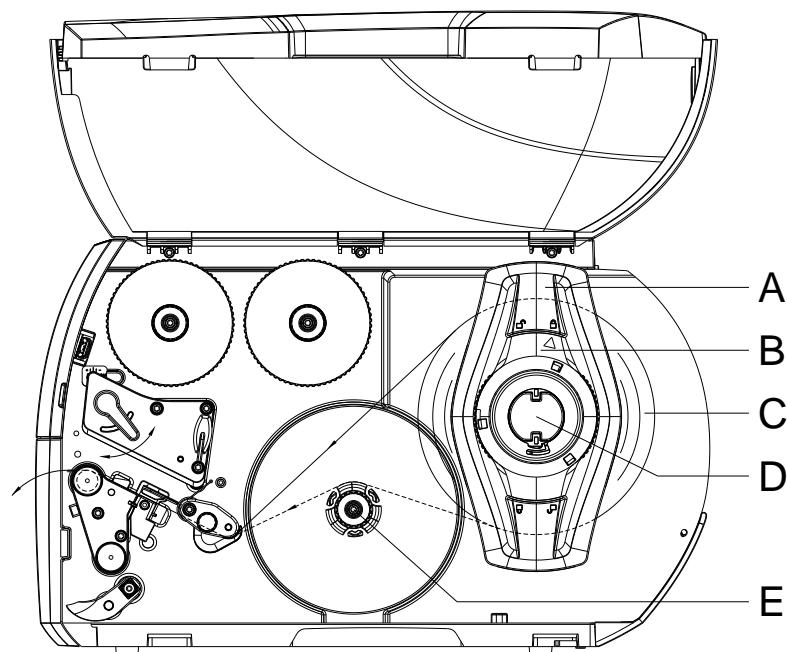

Figure 11
1. Turn the lever (A) counterclockwise to lift up the printhead.
2. Adjust the label guiding (C) with the knurled knob (D) in such a way that the material can pass between the label guiding and the chassis.
3. Guide the label strip over the internal rewinder (E, Figure 11) to the print unit.
4. Guide the label strip through the label photocell (B) in such a way that it exits the print unit between the printhead and the printer roller.
5. Position the label guiding (C) in such a way that the material is guided without clamping.